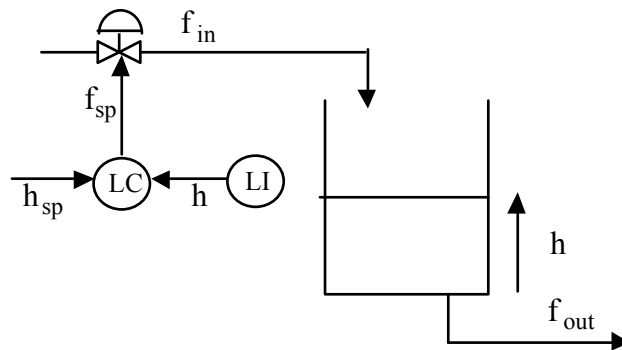

Figure 2.1. Level control system diagram. The time-domain system variables are shown.
2. Figure 2.1 shows a level control system for a water tank, with: LI being the level indicator (sensor), LC being the level controller and a valve controlling the incoming flow of water. The transfer functions of the system's components are given below, with: K_p and τ_i the settings of a PI controller, τ_v the valve time constant, F_{in} the manipulated variable and F_{out} the disturbance of the system (in this case the outgoing flow is in fact the disturbance).